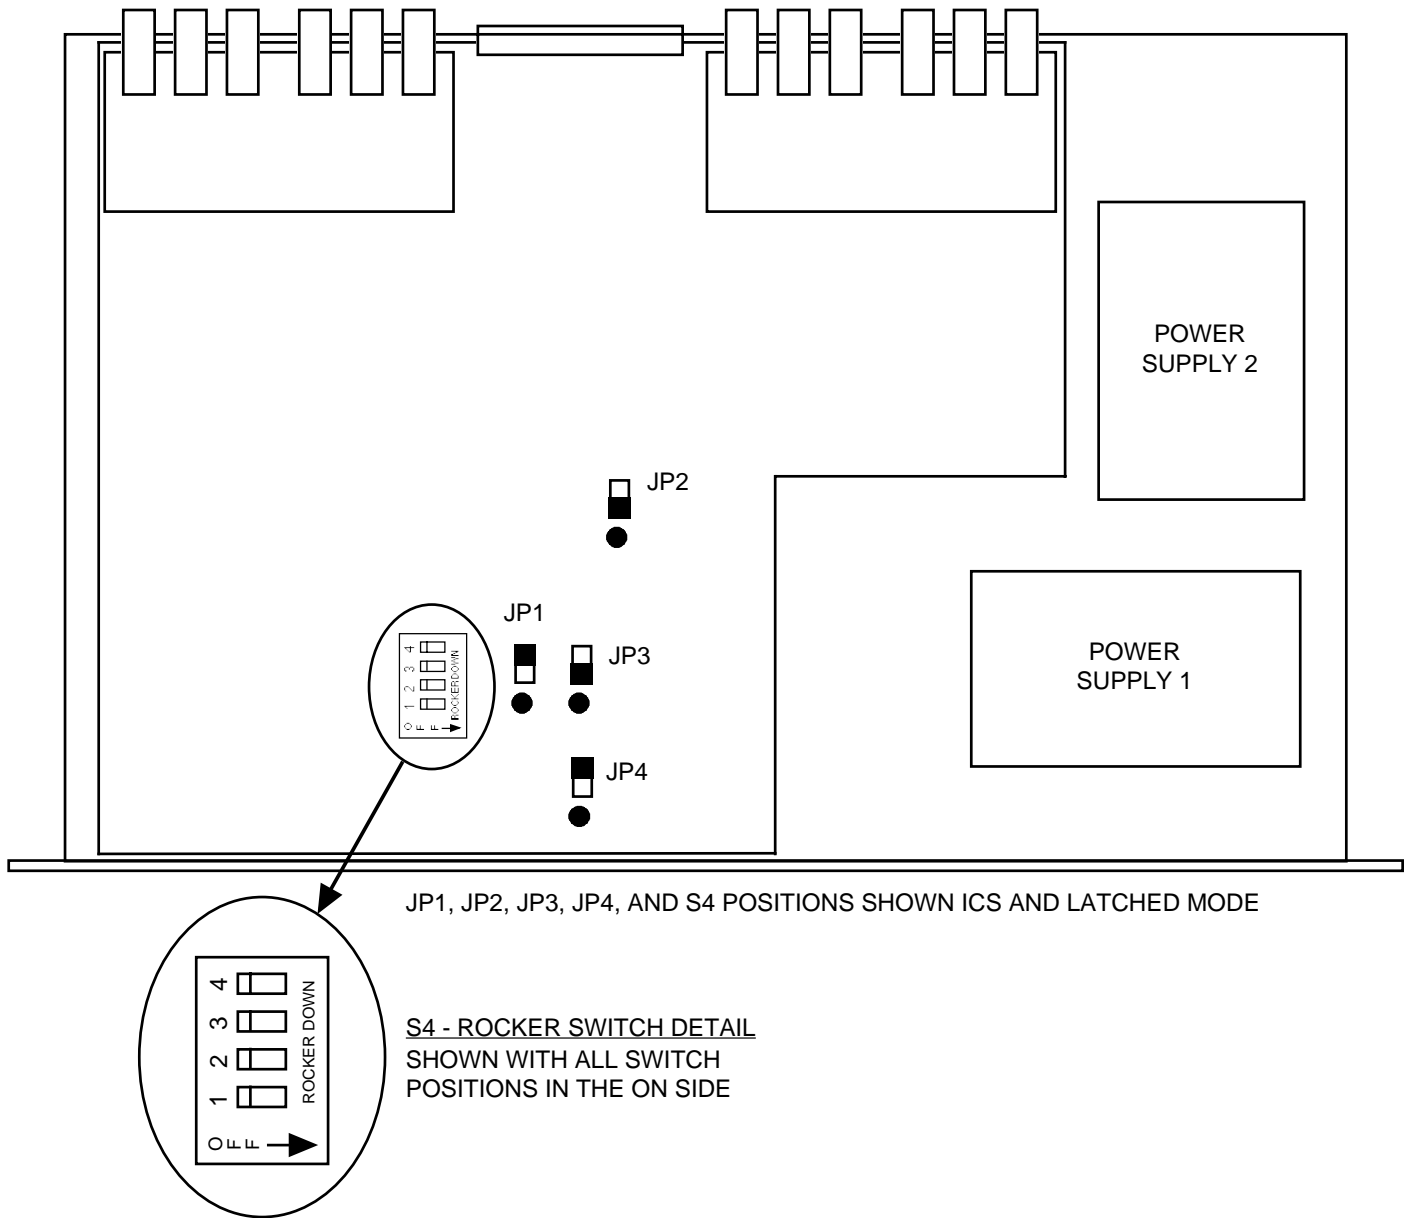

FIGURE 2.1 1582-70L2 RF Switch Assembly
1. Set the on board controls as desired (see Sections 2.3.1 and 2.5, and Figure 2.1).